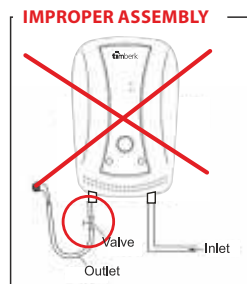

Fig. 5
- Installation of a shutoff valve at the hot water outlet from the water heater is prohibited (Fig.5).